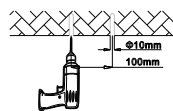

Figure 3
1. Mark with a mark pen or sharp tool on the mounting surface and drill. (figure 3)